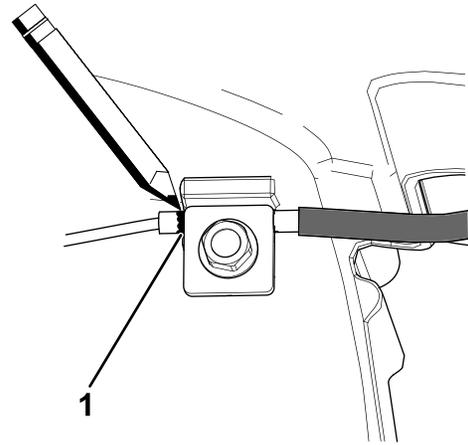
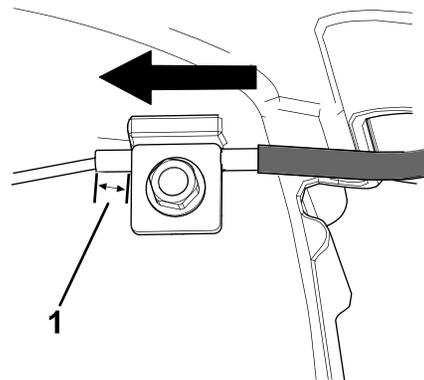

Figure 33
Figure 34
7. Mark the brake cable (Figure 33), then adjust the jacket until there is approximately 8 mm (5/16 inch) of slack (Figure 34).